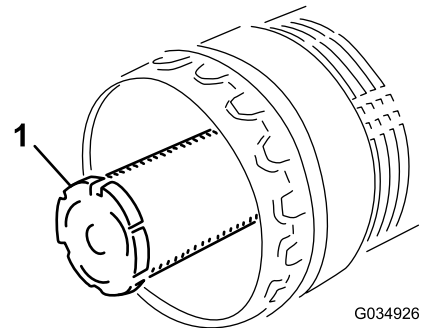

Figure 60
**Note:** Replace the secondary filter every 3 primary filter services (Figure 60).